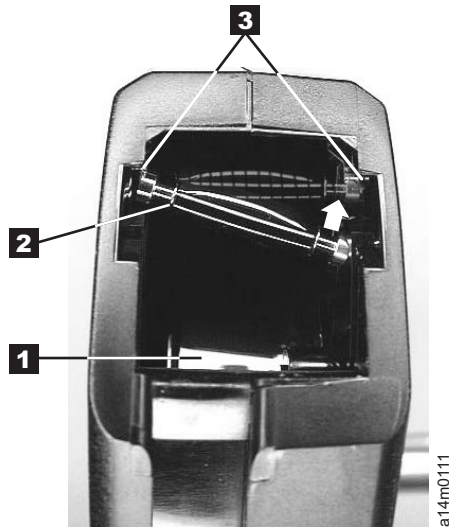

Figure 57. Placing the dislodged leader pin into the correct position.. The cartridge door is open, showing the leader pin out of position
1. Slide open the cartridge door (see **1** in Figure 57 on page 191) and locate the leader pin **2** (you may need to shake the cartridge gently to roll the pin toward the door).